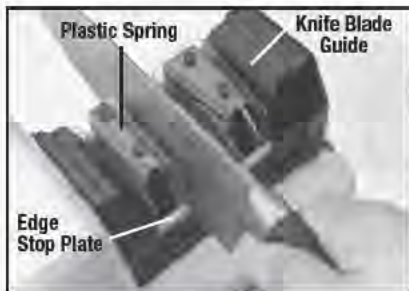

Figure 6. Sharpening In Stage 1: Knife Is Inserted between the knife Blade Guide and the plastic spring until edge rests lightly on Edge Stop Plate.
3. Move the blade downward in the slot while slowly pulling it toward you until it contacts the rotating diamond disk. Make sure as you pull the knife down and forward through the slot that it is fully inserted and its edge rests **lightly** on the front Edge Stop Plate (as seen in Figure 6). Apply only just enough downward pressure to make contact with the front Stop Plate. Additional pressure is unnecessary and counterproductive. Do not be concerned about resting the knife edge on the Edge Stop Plate; it was designed so that it will not damage the knife's edge.